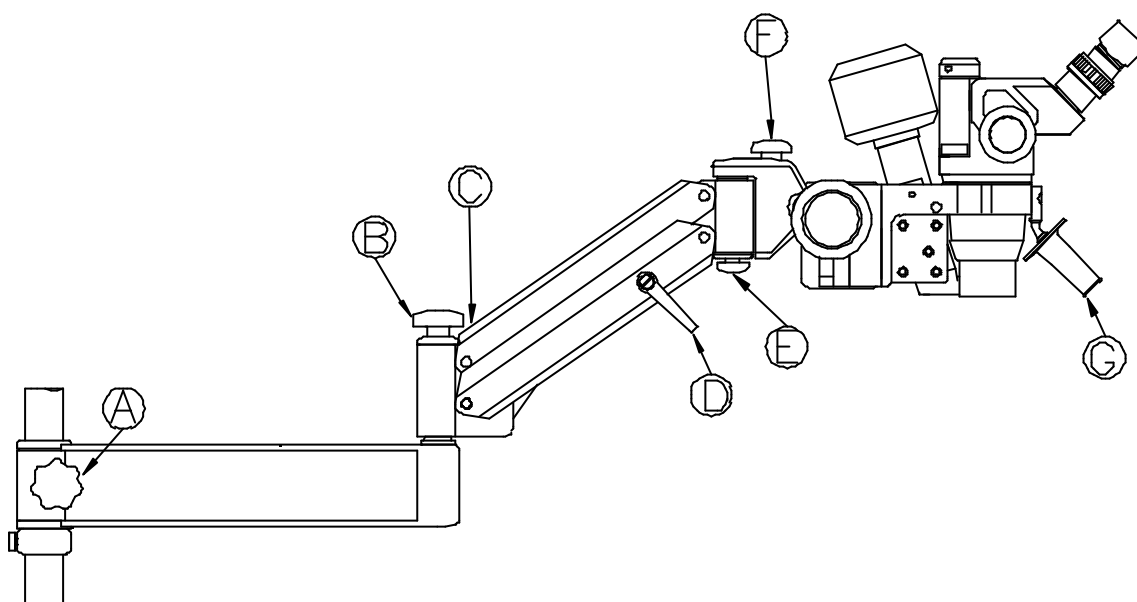

Figure 8 Adjusting the articulated arm
The articulated arm includes a number of features which enable the microscope to be adjusted in almost any position. Refer to figure 8.
4. The microscope may be focused in the upward direction by depressing the pedal (C) and focused downwards using the pedal (F). The drive system will stop automatically when the focus has reached its upper or lower limit.
5. The rate of magnification change and the focus speed may be set by adjusting the knob on the front panel of the power supply. Refer to figure 8. To increase the speed of the power focus and zoom, turn the speed control (K) on the front panel in the clockwise direction. To decrease the speed of the power focus and zoom, turn the knob anticlockwise.